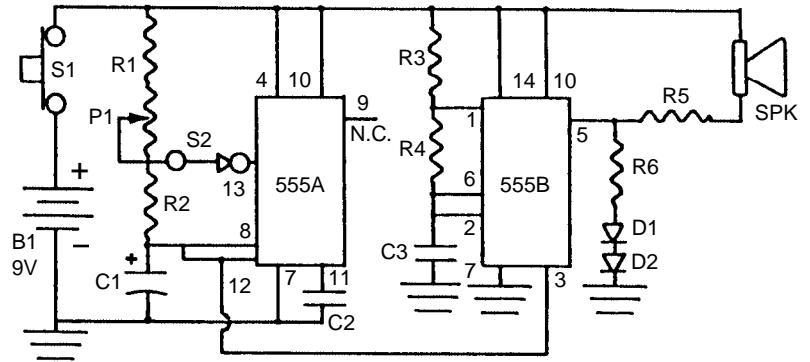
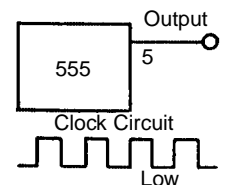

Figure 1
Figure 2
Figure 1 shows the circuit of the Space War Gun. It consists of two 555 integrated circuits (IC) packaged in one IC 556. A 555 timer is well known for its ability to operate as an astable multivibrator oscillator. This oscillator can put out a square wave or pulses depending on the value of the resistors. The first 555A IC oscillates at about 2000 cycles per second. The 555A IC drives the 555B IC to give the weird space sounds.
Let's study the right side of Figure 1 which shows the 555B circuit. Resistor R3, R4 and capacitor C3 control the frequency of oscillation of this circuit. Capacitor C3 charges through resistors R3 and R4, but discharges through resistor R4 and the IC. Since the value of R3 and R4 are 1k Ω and 56k Ω respectively, their total value equals 57k Ω . Thus, C3 charges through 57k Ω and discharges through 56k Ω . The charge and discharge time is about equal. The output at pin 5 will be a square wave as shown in Figure 2. The frequency of oscillation will be around 2,000 cycles per second. If a speaker is connected to output pin 5, we will hear the 2,000 cycle tone. When the two LEDs are connected to this output, they will light whenever the output goes positive. Resistor R6 is added to limit the current in the LEDs. Resistor R5 is added to limit the current in the speaker.